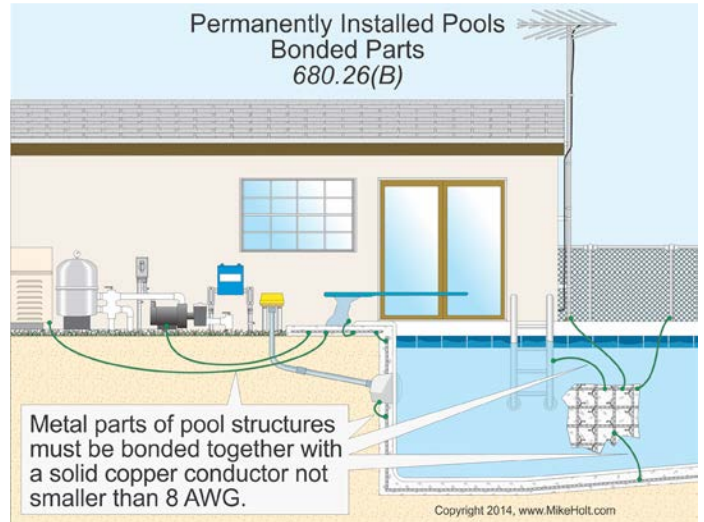

Figure 680-40
(B) Bonded Parts. The parts of a permanently installed pool listed in (B)(1) through (B)(7) must be bonded together with a solid copper conductor not smaller than 8 AWG with listed pressure connectors, terminal bars, exothermic welding, or other listed means in accordance with 250.8(A). *Figure 680-40*